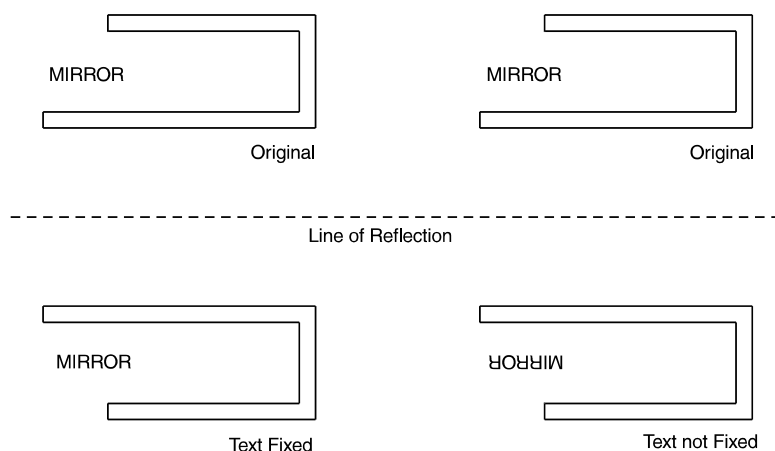

Figure 10.6: Mirroring text with FixText toggled on (left) and toggled off (right)
6. Toggle FixText on to mirror the position of text but not its orientation. When FixText is toggled off, text is mirrored and rotated 180°. (See Figure 10.6)